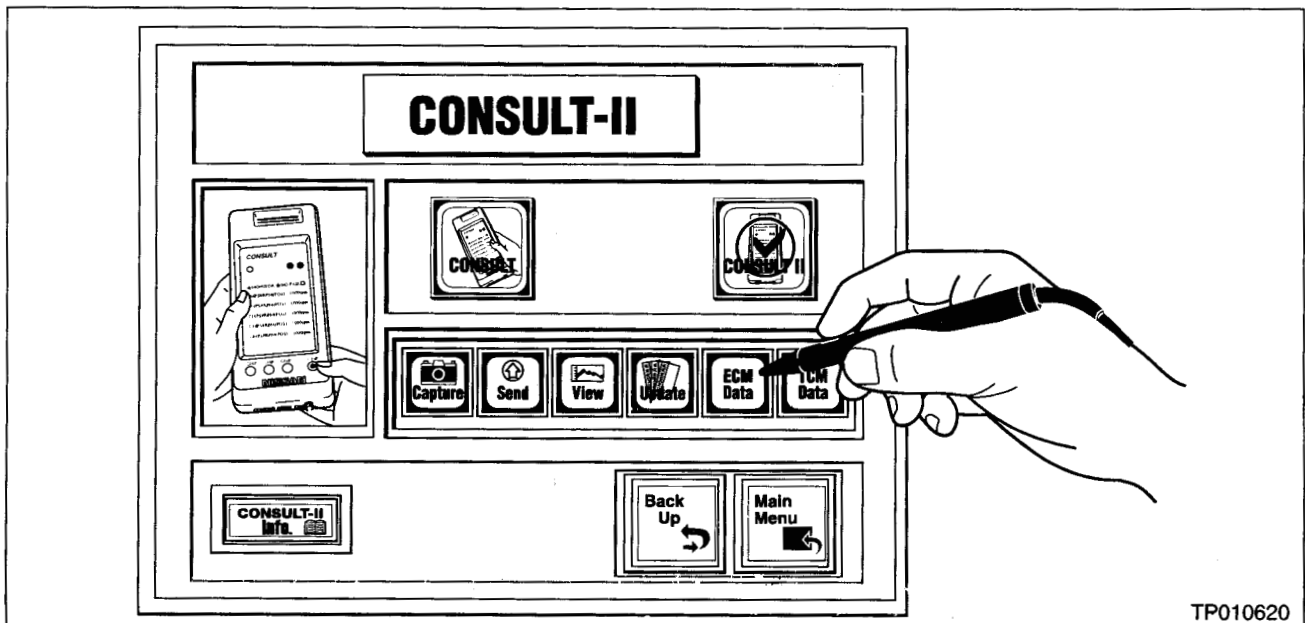

Figure 7
6. From the **"CONSULT UTILITIES"** screen, select **"ECM DATA"** (see Figure 7).